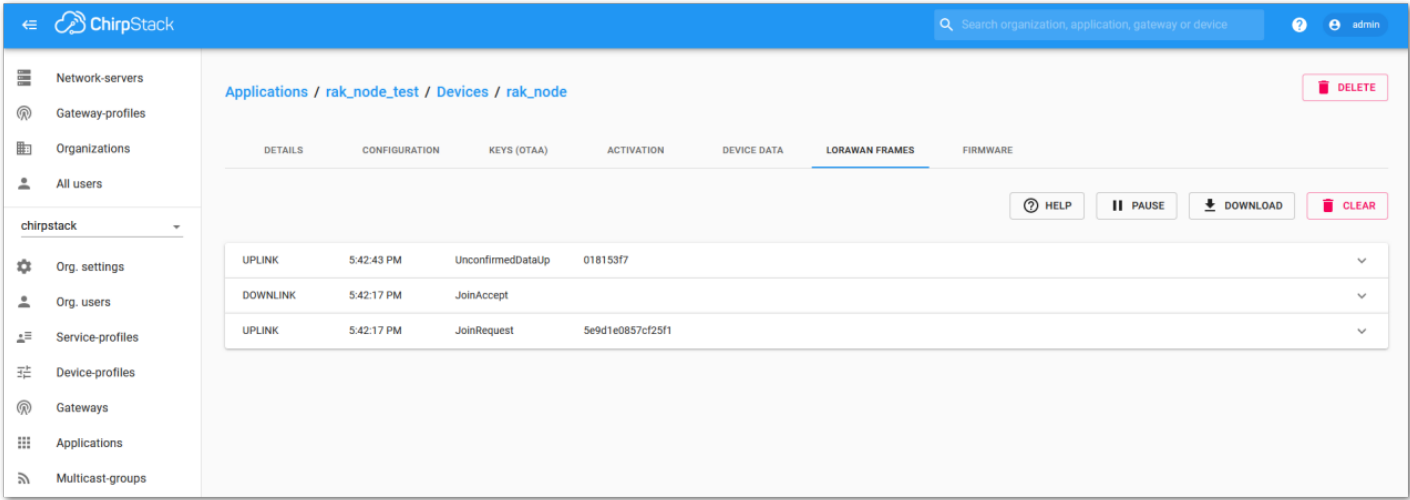

Figure 213: Chirpstack Data Received Preview
7. On the ChirpStack platform, you should see the join and uplink messages in the LORAWAN FRAMES tab, as shown in **Figure 213**. By convention, messages sent from nodes to gateways are considered as **Uplinks** while messages sent by gateways to nodes are considered as **Downlinks**.